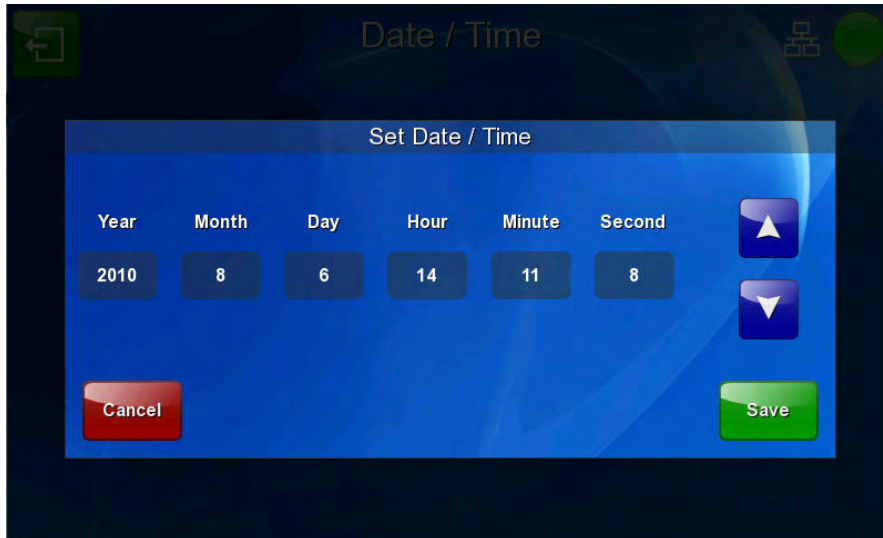

FIG. 52 Set Date/Time popup window
1. From the *Date/Time* page, press the **Set Time** button to open the *Set Date/Time* popup window (FIG. 52).